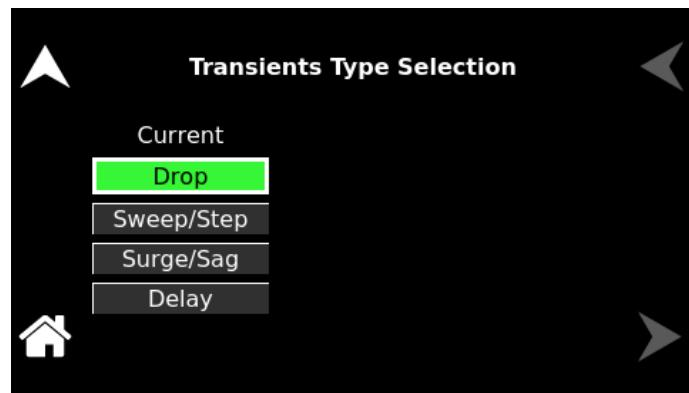

Figure 8-22: Current Transients Type Selection for Electronic load – Current Programming Mode
4. Tap the ADD field to enter the ADD sub-menu; refer to Figure 8-22.